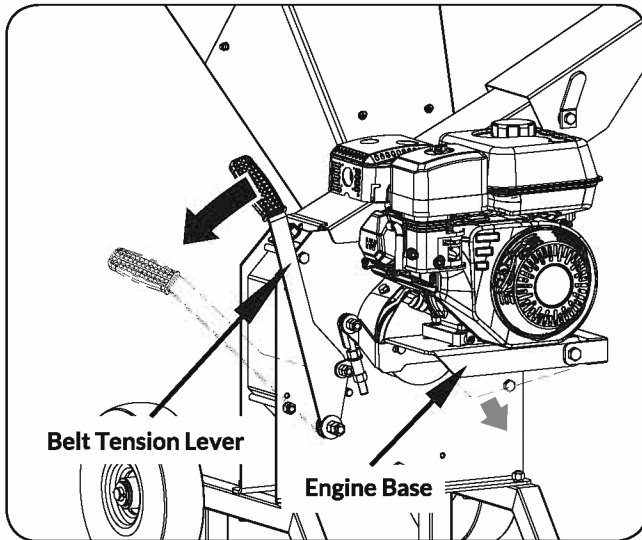

Figure 25
- Push down on the belt tension lever to release the belt tension. (See **Figure 25**)